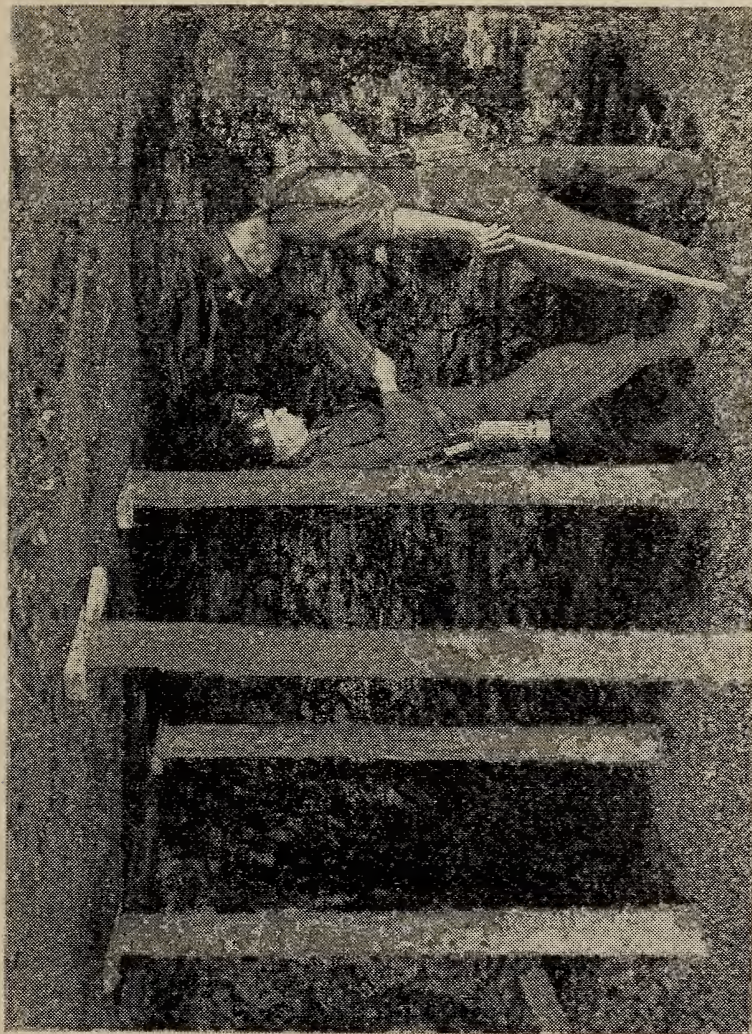

FIGURE 4.—A definite timbering plan should be adopted; miners should be made thoroughly familiar with it and should follow it carefully.
- A. The adoption of a program of timbering that calls for a concerted effort to reduce the accidents from falls of roof and coal. (See fig. 4.)